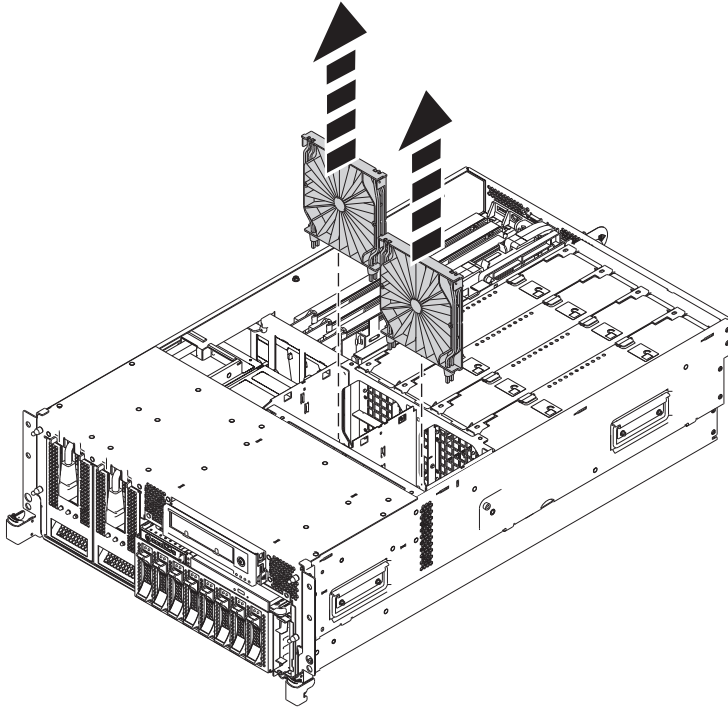

Figure 7. Removing the air baffles from the fan cage
- b. To remove the air baffles, grasp and pull the air baffle out of the fan cage, as shown in Figure 7 on page 28.